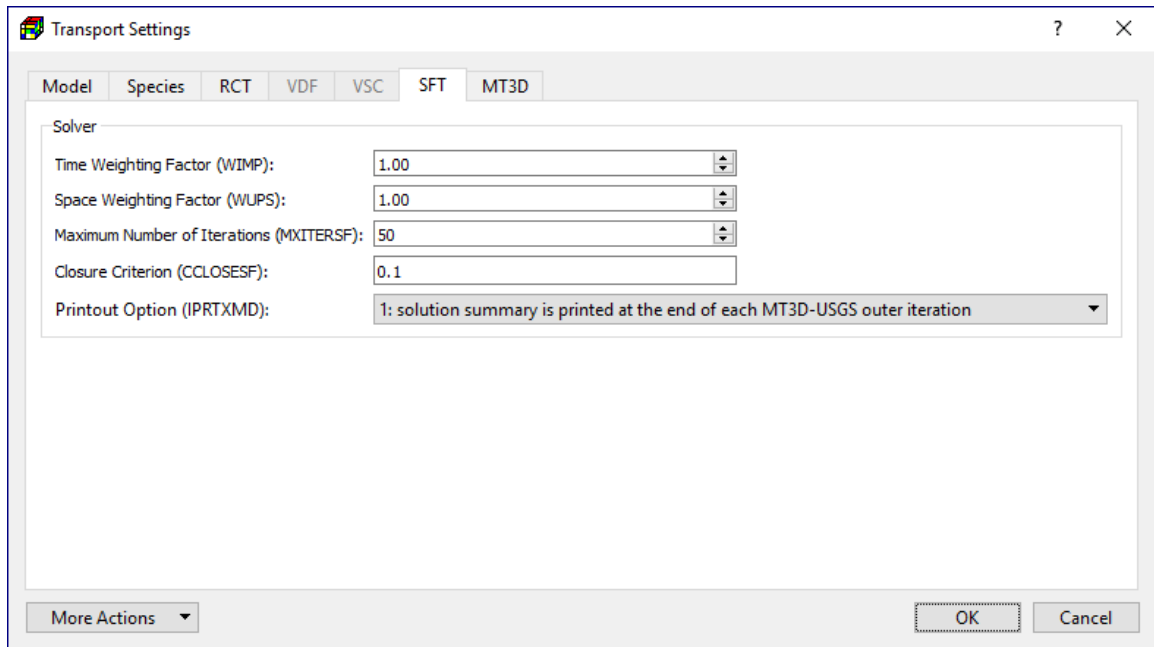

Figure 113. The SFT tab of the Transport Settings dialog box
7. **SFT Tab** (Figure 113) contains options for the Streamflow Transport (SFT) Package of MT3D-USGS.